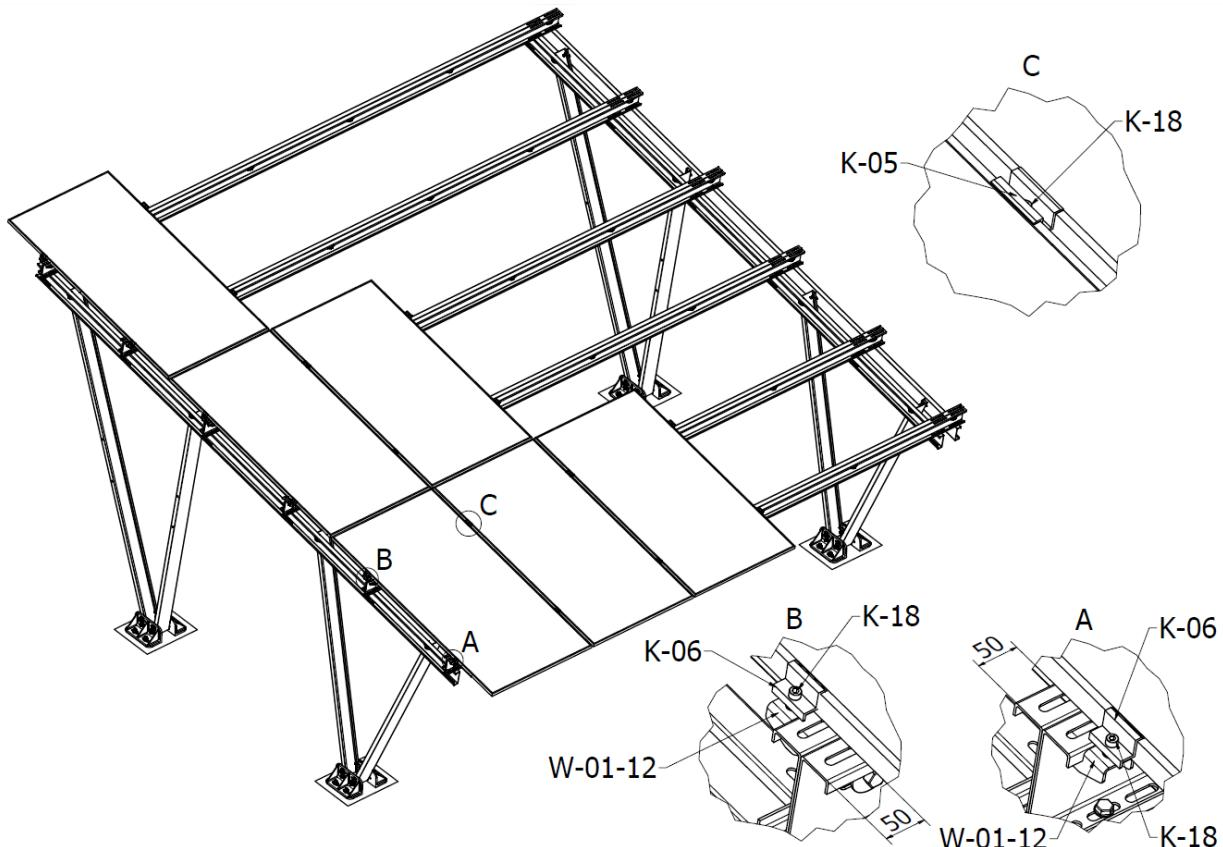

FIG.12 Assembling photovoltaic modules
11. In the next step, proceed to assemble the photovoltaic modules using the brackets (W-01-12), the middle clamps (K-05), the end clamps (K-06) and the Allen screws (K-18-35) — reference (FIG.12).
NOTE: As shown in (FIG.12), the bracket can be mounted on either the bottom or the top channel bar, depending on the assembly zone requirements of the module.